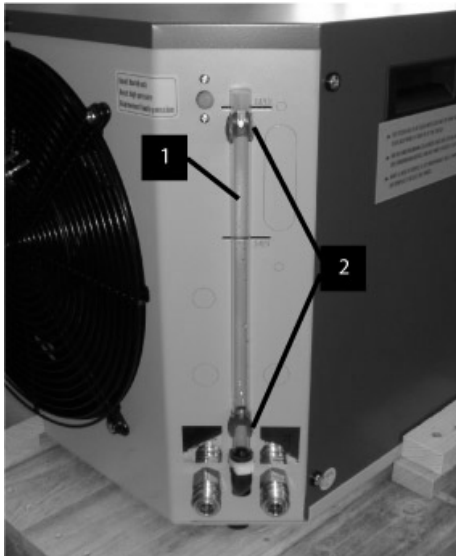
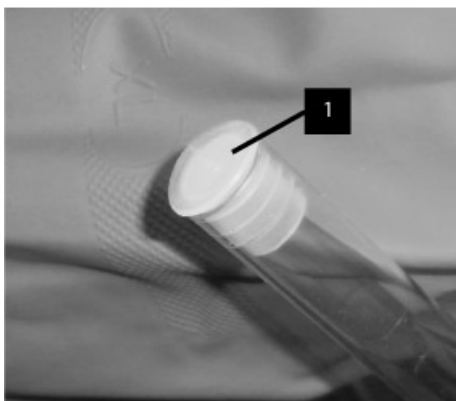

Fig. 48
Fig. 49
2. Drain the system through the level indicator (Fig. 48/1).
For that carefully pull the level indicator out of the retaining brackets (Fig. 48/2).
3. Remove the cap (Fig.49/1) from the level indicator (Fig. 48/1).
5. Refit the level indicator cap (Fig. 49/1) after the system has been drained.
Carefully insert the level indicator in the retaining brackets (Fig. 48/2) to its original position.